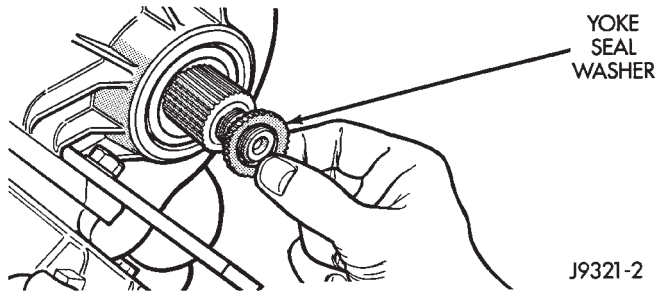

Fig. 76 Yoke Seal Washer Installation
(3) Install new seal washer on front output shaft (Fig. 76).